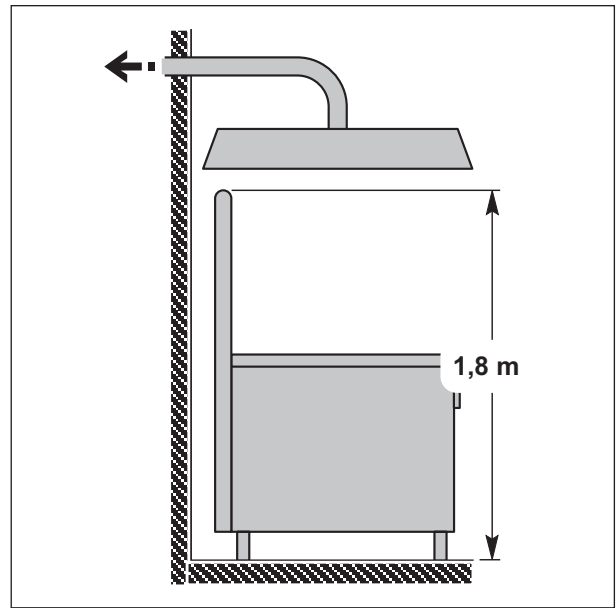

Fig. 21 Fume extraction through extraction hood
- The final part of the appliance extraction duct must be about **1.8 m** from the appliance support surface; the outlet of the combustion product extraction duct must be placed within the basic perimeter of the hood (see *Fig. 21 Fume extraction through extraction hood*).